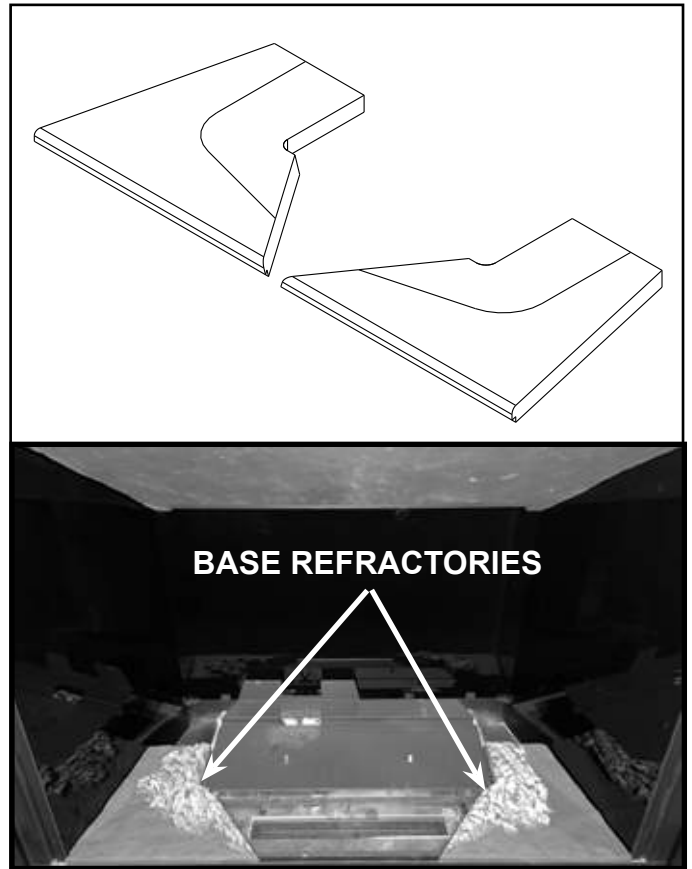

Figure 11.23 Base Refractory Installed
13. Set new base refractory piece(s) in place as shown in Figure 11.23.